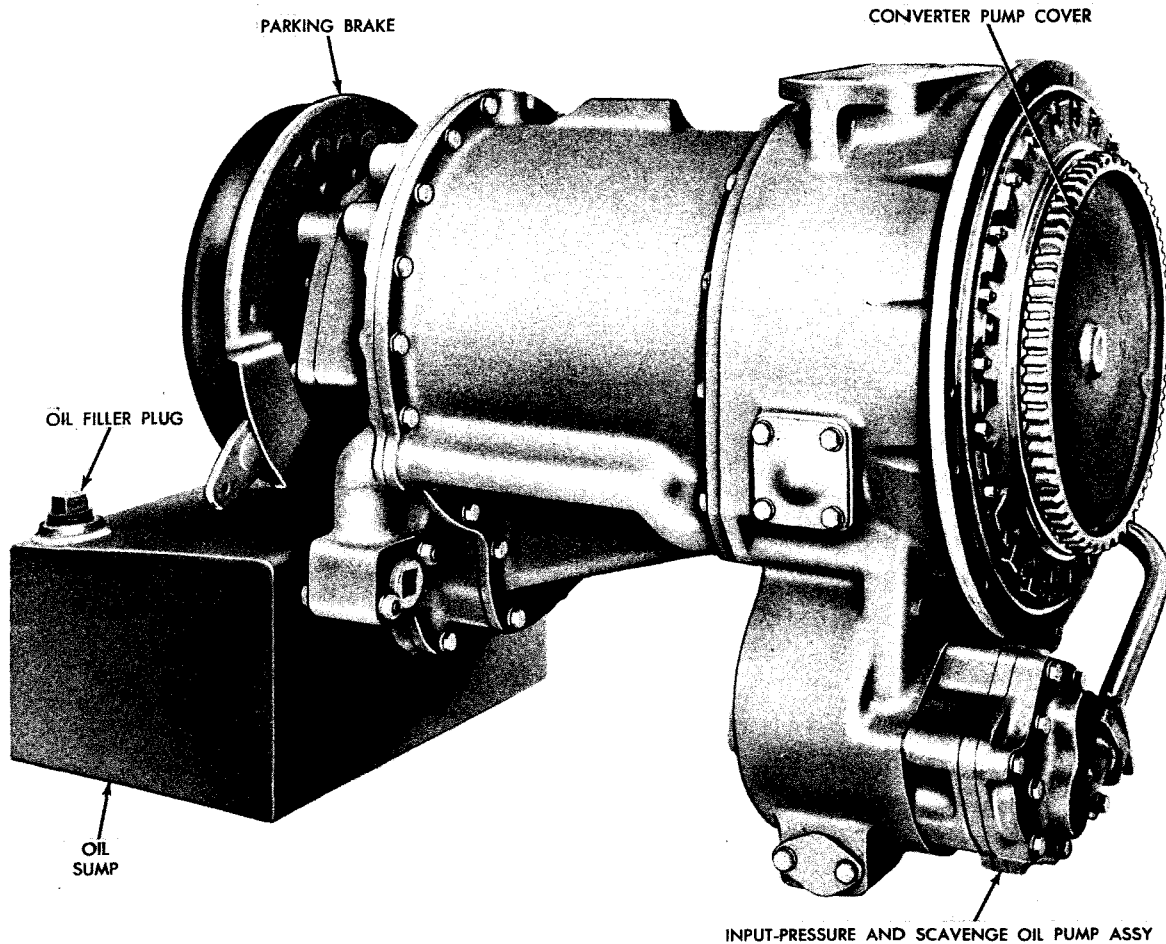

Fig. I-3. Model CRT 3531-3 Torqmatic transmission with direct-mount option—right-front view
a. Models Covered. This service manual covers the CRT 3531-1 and CRT 3630-1 (fig. I-1, I-2) and the CRT 3531-3 (fig. I-3, I-4) Torqmatic transmissions. All 3531 and 3630 models are designed for operation in the 130 to 175 horsepower class. Several options are available with each model.
(1) This service manual is composed of eight sections indicated by Roman numerals. The page numbers of each section begin with 1, following the section number. Each section is composed of paragraphs which are numbered beginning with 1. Subparagraphs under each paragraph begin with a. Further division of subparagraphs is indicated by (1), (2), etc.
(2) Section I contains general information; Section II describes the transmission and its function; Section III covers maintenance instructions; Section IV contains information required for general overhaul of the transmission; Section V, arranged with handy pictorial steps, covers disassembly of the transmission into subassemblies; Section VI outlines the rebuild of subassemblies; Section VII, also by pictorial steps, covers assembly of the transmission from subassemblies; Section VIII, primarily a tabulation of wear limits, also contains a spring chart.
(1) All transmission models covered in this service manual are the full powershift type consisting of a torque converter coupled to planetary gearing controlled by hydraulic clutches. The gearing and clutches are arranged to give forward and reverse operation in every range.
(2) Three speed ranges are available in CRT 3531 and 3630 models. Models with -1 suffix have a transfer case with front and/or rear outputs located 20 inches vertically below the transmission input centerline (fig. I-1 and I-2). Those with -3 suffix have only a rear output directly in line with the input (fig. I-3 and I-4). Speed ranges, and forward and reverse, are manually selected at controls linked to hydraulic valves.
(3) The transmission is a single, compact unit which transmits power from the engine to the vehicle drive line. Individual features are discussed in subparagraphs b through g, below.
(1) All models are available with a closed torque converter housing and input drive flange for mounting the transmission remote from the engine (fig. I-1). Also, all models are available with provision for mounting the transmission directly on the engine (fig. I-3). Direct-mounted transmissions may have either of two types of input drives. On the earlier models, the torque converter is driven by a closed and sealed concentric gear arrangement in which grease is permanently retained (items 8, 10 and 12 (A, foldout 7). Later models use a flex disk drive (items 1, 2, 3 and 7 or items 2, 3, 4, 5 and 7 (A, foldout 7). In the flex disk drive, the outer circumference of the disks is bolted to the engine.
(1) Transmissions differ in the components which couple them to the engine. Remote-mount installations have a cover 1 (foldout 1) on the front of converter pump 4, to which an input shaft is bolted. An input flange 26 is splined to the input shaft. A front cover 25, bolted to the converter housing, encloses the input drive. The transmission and engine are connected by a shaft.
(2) Earlier direct-mount installations have a "grease ring" drive (foldout 2), in which concentric gears (internal and external teeth) connect the transmission and engine. The external-tooth gear is integral with converter pump cover (fig. I-3). The gear teeth are permanently lubricated and sealed. The converter housing is bolted directly to the engine, which supports the front of the transmission.
(3) Later direct-mount installations use a flex disk drive (A, foldout 7). A laminated steel disk 1, or 4 and 5, is bolted to converter pump cover 7 by bolts 2. The disk is bolted to the engine flywheel at the outer circumference.